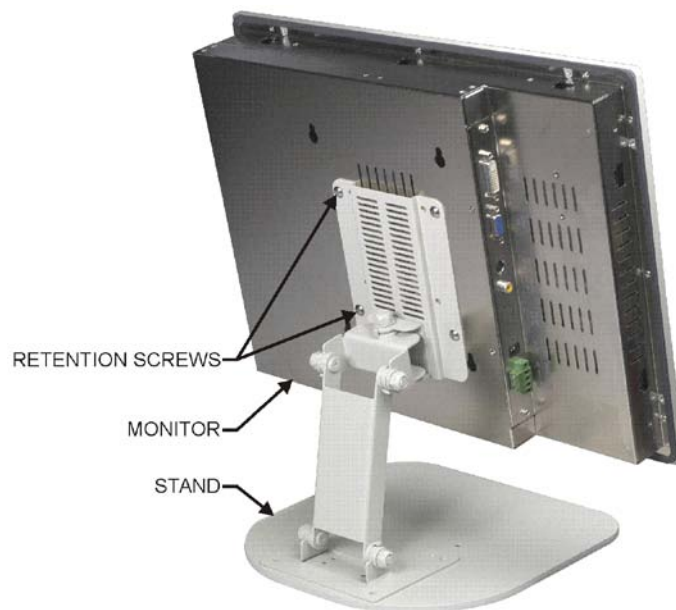

Figure 5-22: Monitor Stand Mounting
- Step 2:** Secure the monitor to the stand with the supplied retention screws (**Figure 5-22**).